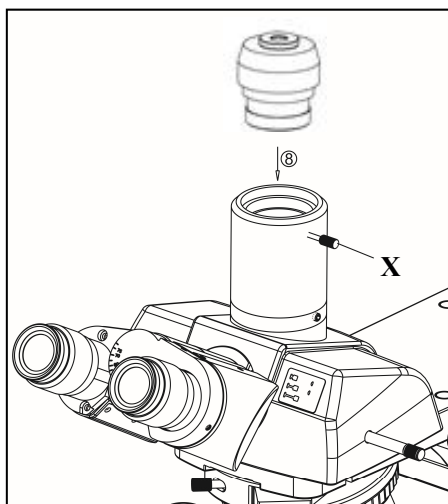

Figure 29
Then, as shown in Figure 29, screw the camera interface into the trinocular socket according to the path of serial number ⑧. After reaching the appropriate position, screw in the screw at the serial number X to the position where the camera interface is firmly supported.